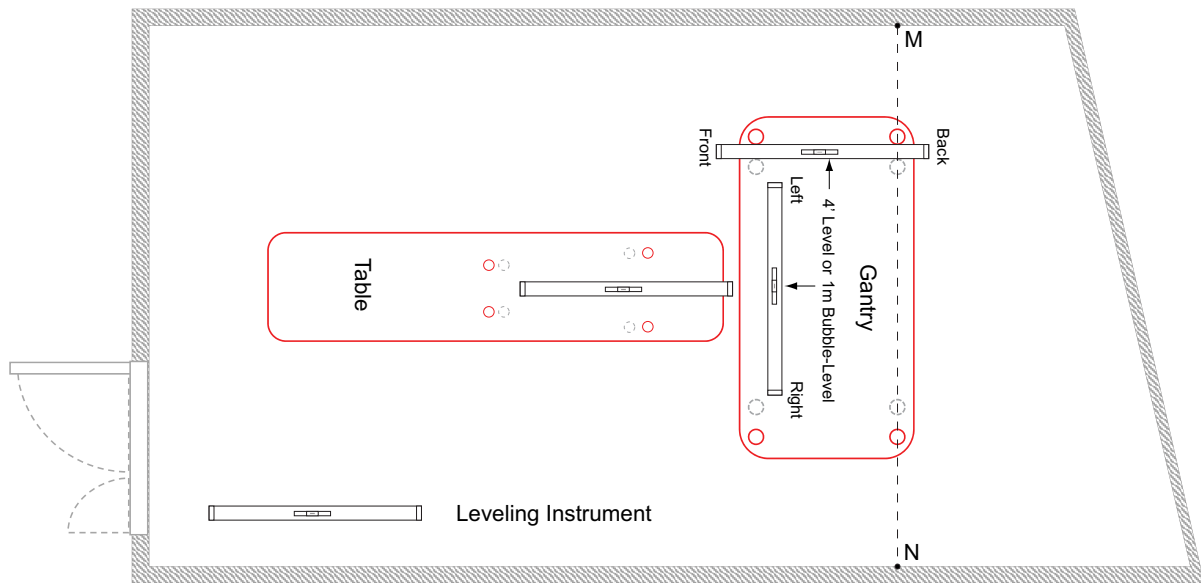

Figure 8-13 Check Floor Levelness
- 3.) Use a laser to check the floor levelness across the entire area covered by the gantry and the table (as shown in Figure 8-13) after determining and marking the position of the gantry and the table.